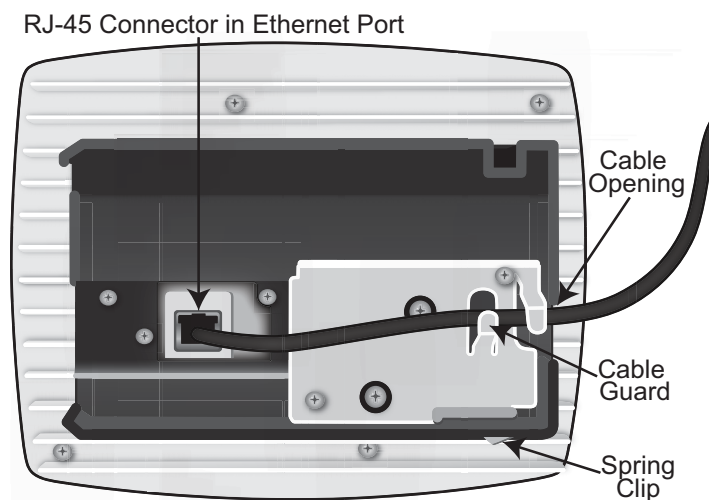

Figure 12 Route and Terminate the Cable
- Step 2** Route the Ethernet cable through the pedestal base cable opening and through the cable guards. Insert the RJ-45 connector into the Ethernet port as shown in Figure 12: